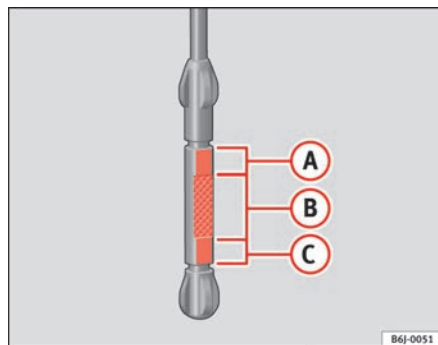

Fig. 126 Engine oil dipstick
- Then pull it out once more and check the oil level ⇒ **fig. 126**. Top up with engine oil if necessary.